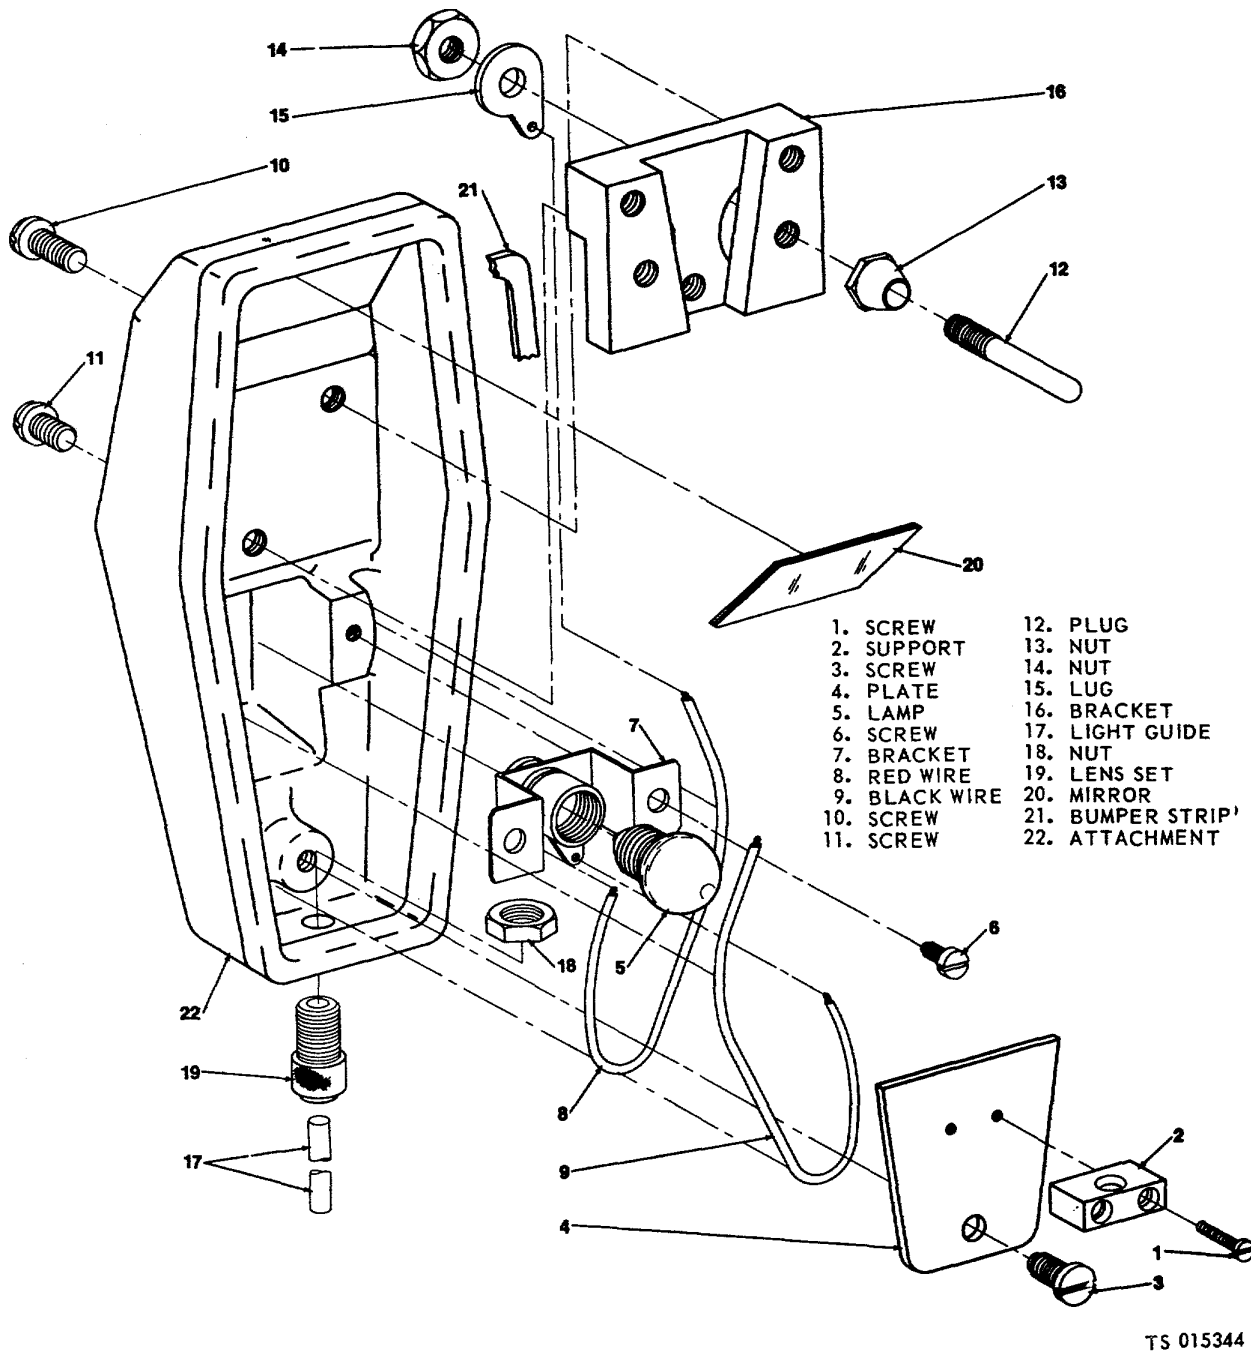

Figure 7-4. Light attachment, exploded view.
b. Disassembly. Disassemble the light attachment in the order of the index numbers in figure 7-4.